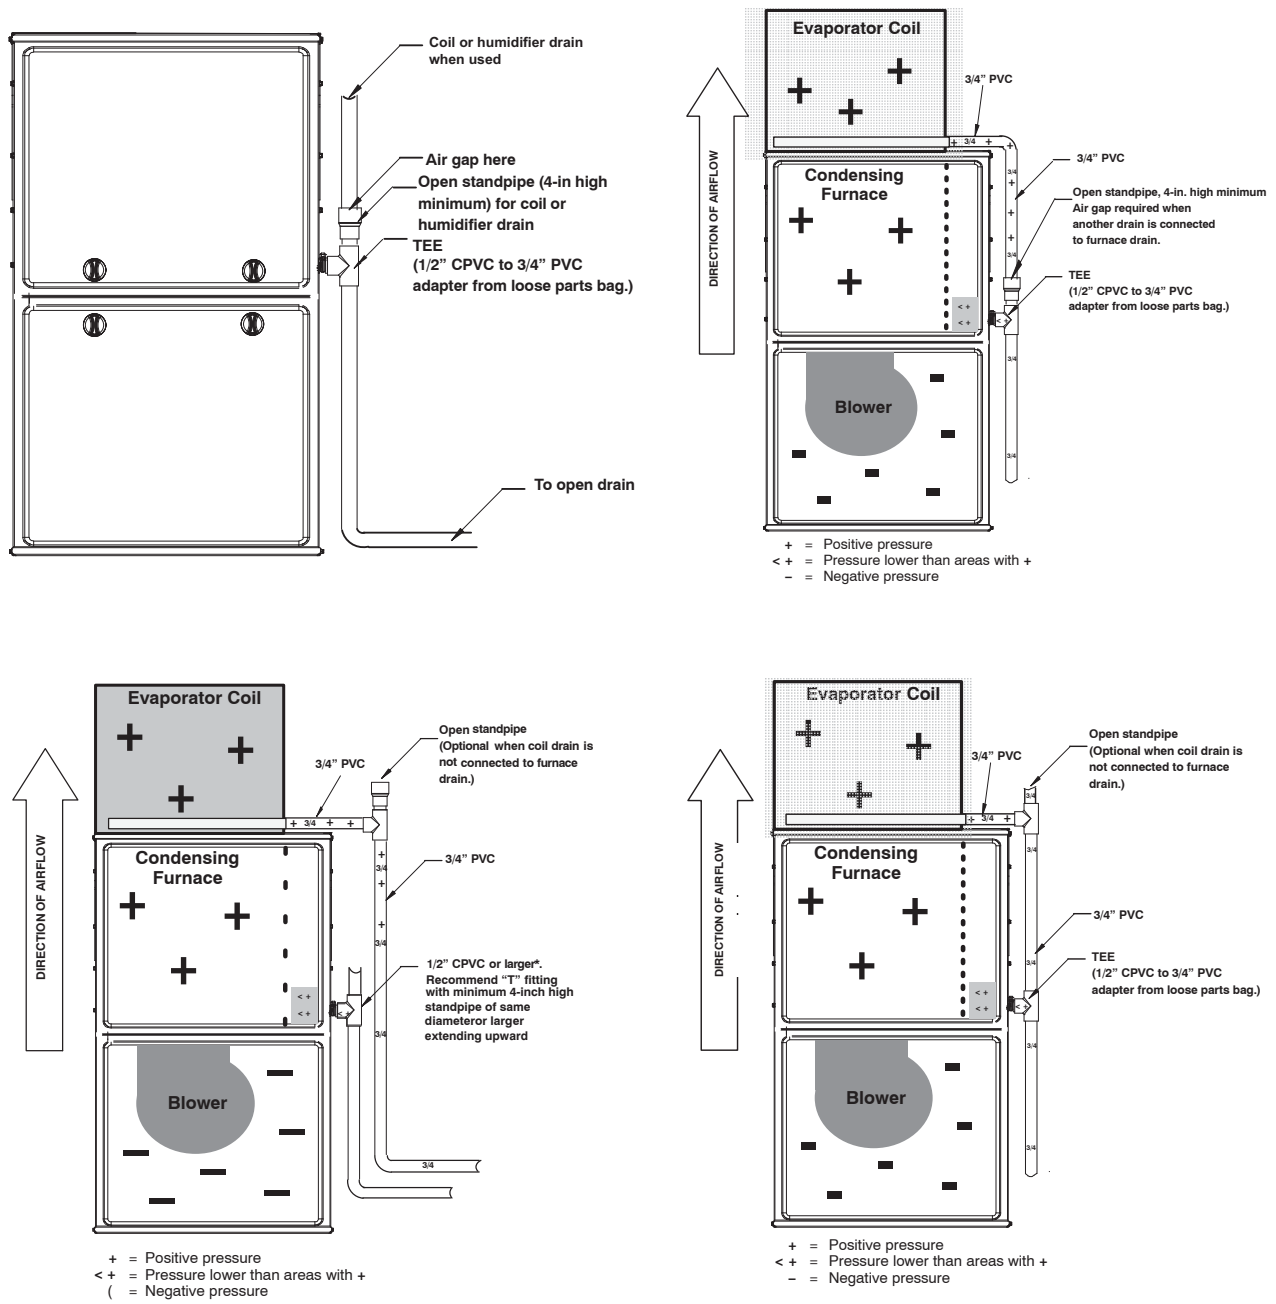

Fig. 14 – Example of Field Drain Attachment
- All condensate piping is at least 3/4-in. PVC and there is a relief tee at the top of condensate drain piping as shown in Fig. 14.